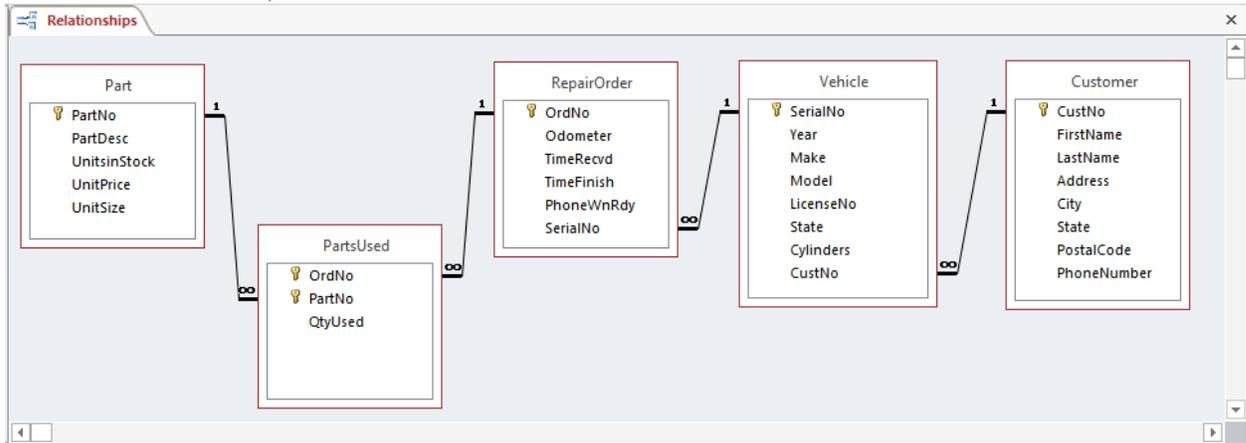

Figure 55: Completed Relationships Window
6. Inspect the Final Result: After enforcing referential integrity, your window should appear as in Figure 55.
3. **Inspect the Final Result:** After enforcing referential integrity, your window should appear as in Figure 55.